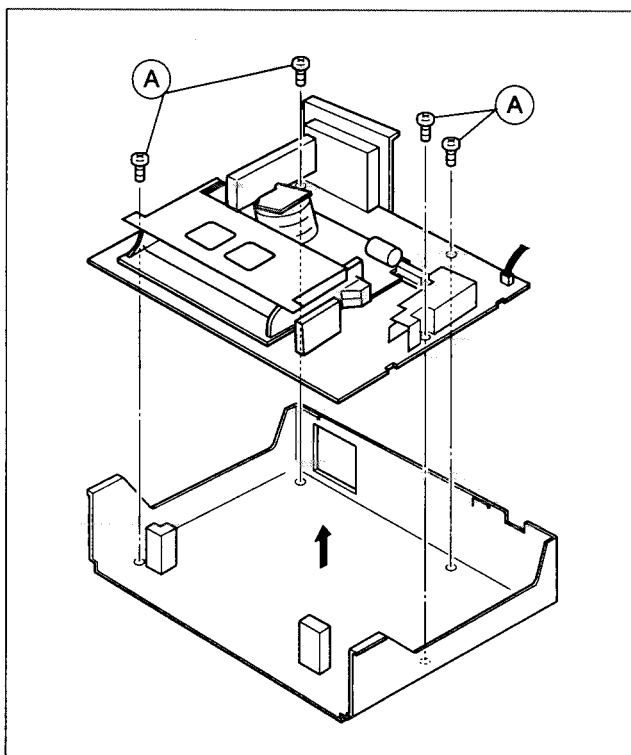

Fig. 1-5-2
- (3) Take out 4 screws (A).
- (4) Remove the Mechanism assembly (including Cassette housing) and Main board assembly out of the chassis as shown in Fig. 1-5-2.